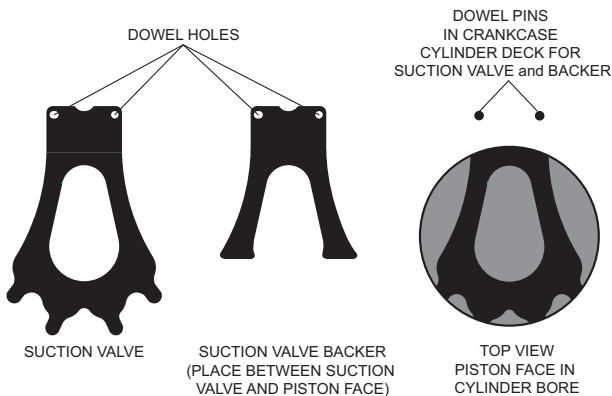

Fig. 7 — Piston, Suction Valve, and Backer Positions (06E)
- b. 06E Compressors: If compressor uses a suction valve and a backer valve (looks like half a suction valve), backer valve must be installed before installing full size suction valve (Fig. 7).